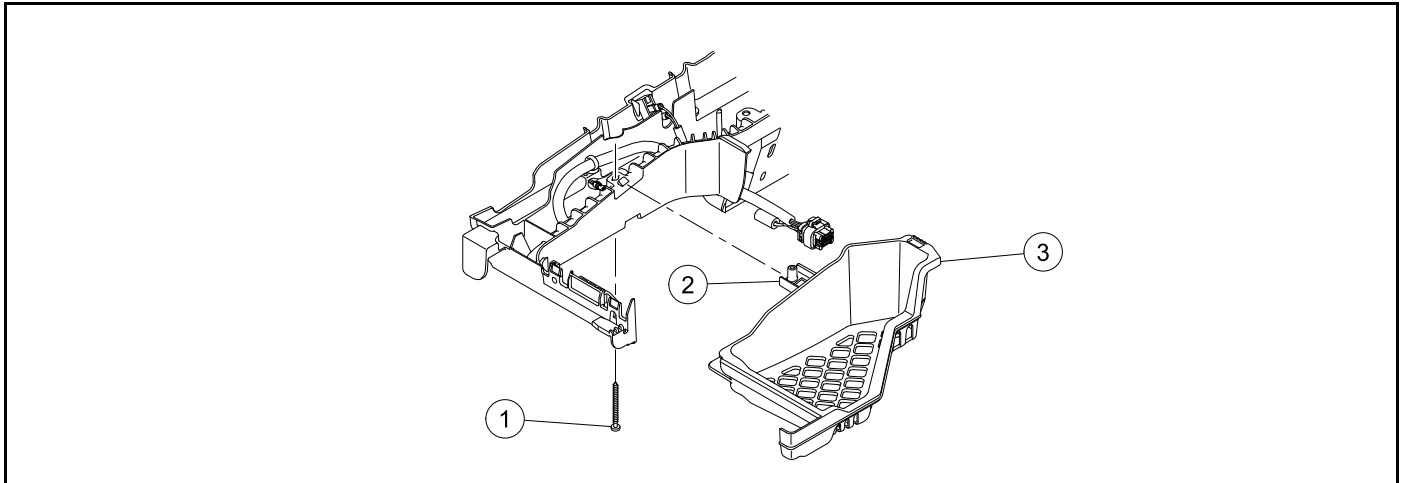

Figure 4-14 Overhead Basket
1. Remove the screw (1) (Figure 4-14, Page 4-19).
1. Align the overhead basket (3) with the display unit support (Figure 4-14, Page 4-19).
2. Push the overhead basket forward until the tab (2) locks.
3. Install the screw (1). Tighten the screw to 17.7 lb·in (2.0 N·m).